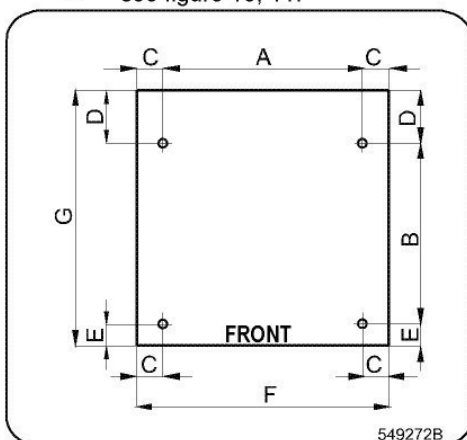

Figure 10 – Rigid-mount machines
- “ ” – drilling points for anchoring bolts, or chemical anchor bolts, see figure 10, 11.
- The existing concrete floor must be at least 120mm / 4.72" thick. Dimensions for anchoring – see figures 10, 11 and table 22.